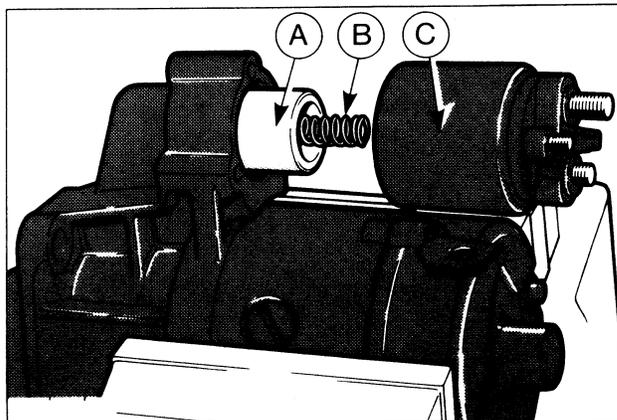

FIG. 12 Solenoid
- Smear lithium based grease onto solenoid armature hook and then locate hook onto actuating arm in drive end housing. Ensure solenoid armature return spring is correctly positioned and then guide solenoid body over armature, Fig. 12. Align body with drive end housing and install retaining screws.